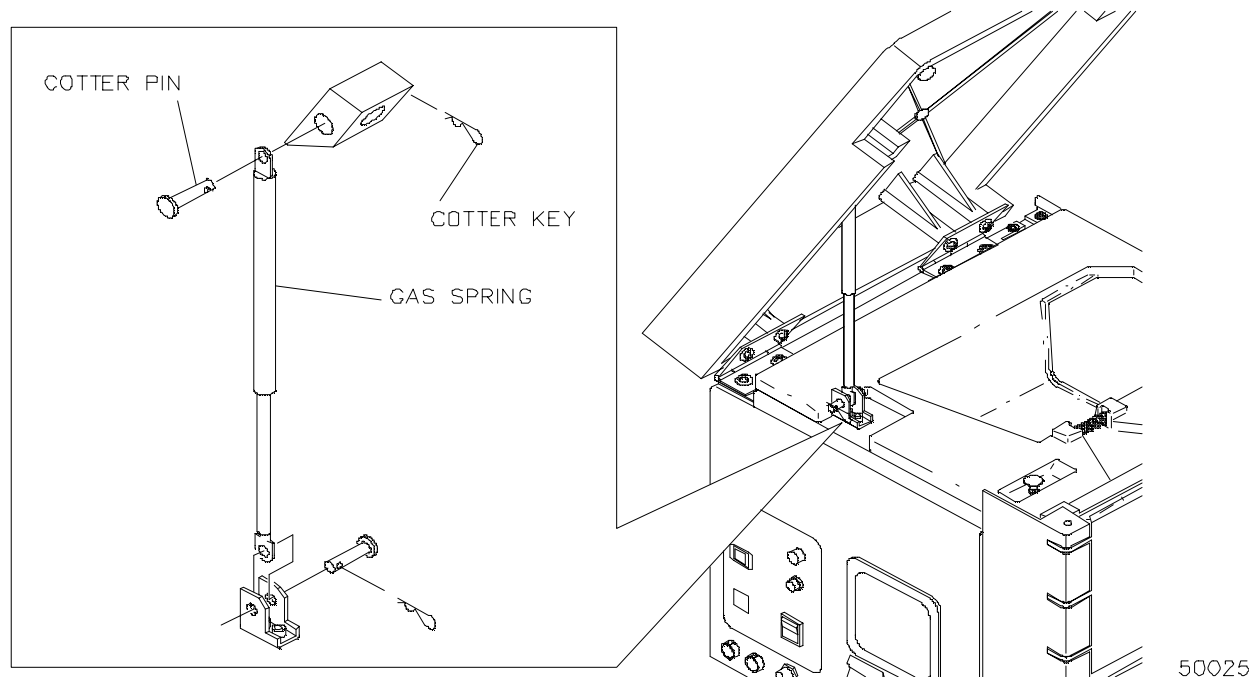

Figure 4-25. Gas Spring, Top Left Cover
3. Remove retaining key and pin at bottom of gas spring while holding up the cover (**Figure 4-25**).